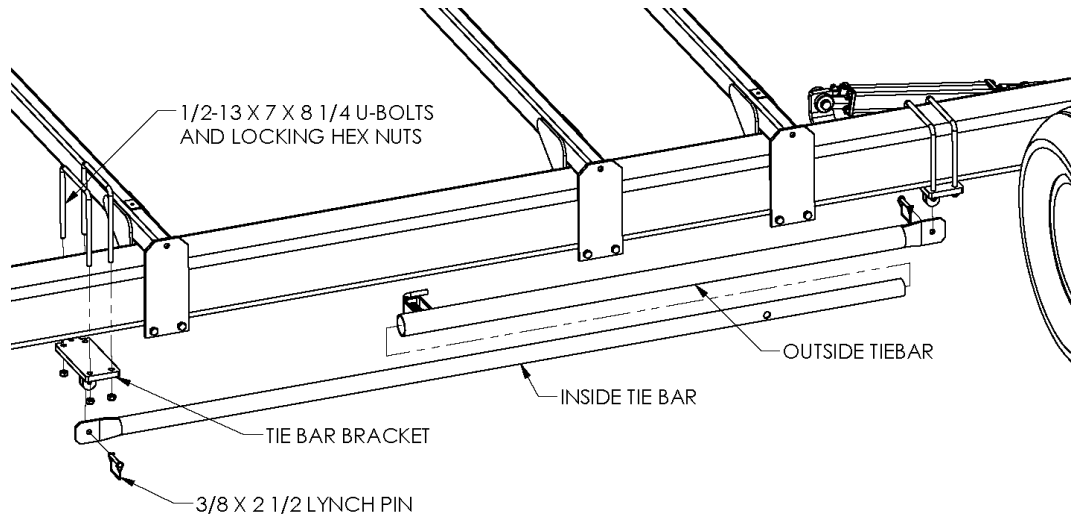

Figure 13
1. Secure the outside tie-bar half to the tiebar bracket installed earlier in assembly using the 3/8 x 2 1/2 lynch pin/ Refer to figure 13.